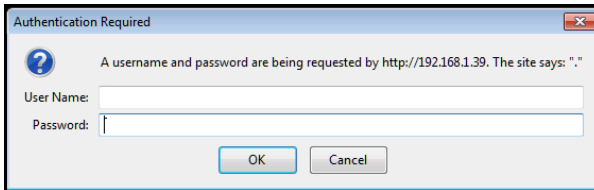

Figure 8: Entering Logon Credentials
**Note:** If authentication is enabled, the following window appears (Figure 8) and you must enter the valid username and password to access the web pages. For default authentication details, see Section 10.